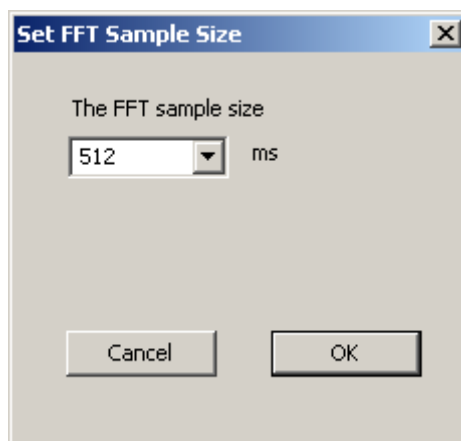

Figure 4.28: Set FFT Size dialog
4. To change the FFT sample size, choose the menu item **Settings > Set FFT Sample Size**. The Set FFT Sample Size dialog is displayed (see Figure 4.28).